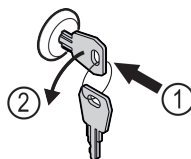

Fig. 206
- Insert the key. Fig. 206 (1)
- Turn the key anticlockwise by 90°. Fig. 206 (2)